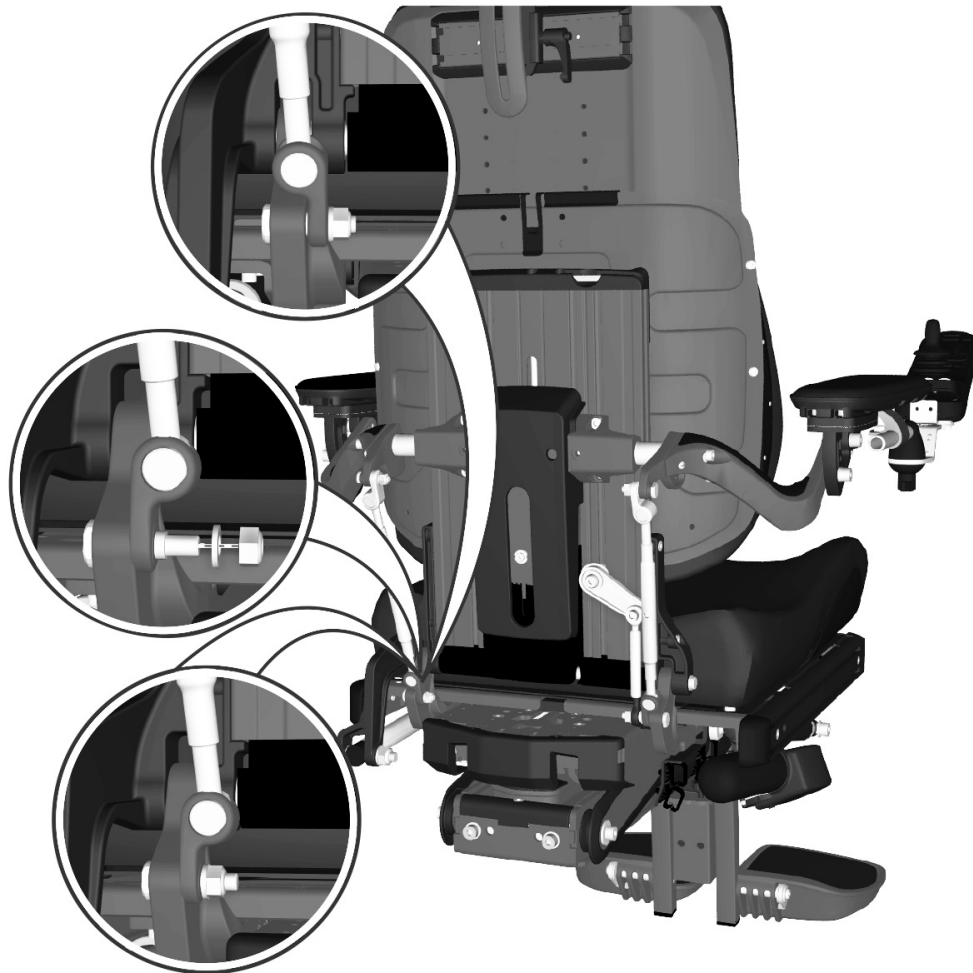

Figure 260. Turn the bracket 180° so the adjustment bar is closer to the centre of the seat.
1. Remove the lower bracket of the adjustment bar, which is secured with a screw, washer and nut. See fig. 260(1).
2. Turn the bracket 180° so the adjustment bar is closer to the center of the seat. See fig. 260(2).
3. Refit the lower bracket of the adjustment bar in its new position using the screw, washer and nut. See fig. 260(3).